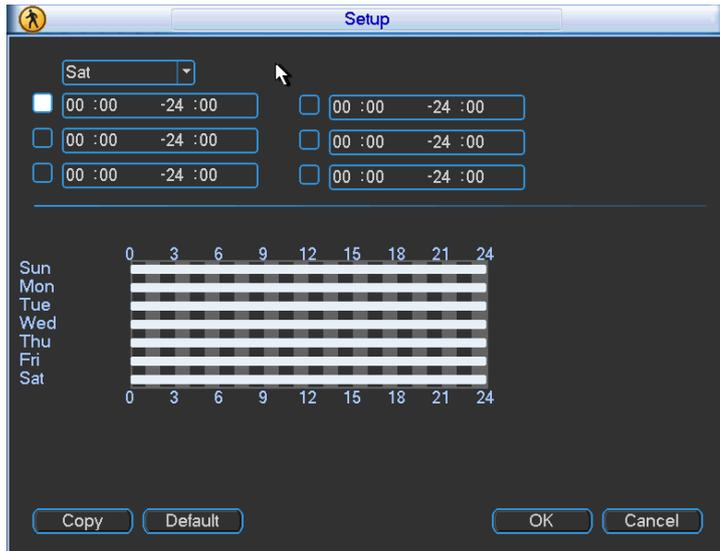

Figure 4-25
- Period: Click set button, you can see an interface is shown as in Figure 4-25. Here you can set motion detect period. System only enables motion detect operation in the specified periods. It is not for video loss or the camera masking. Please select Sunday to Saturday from the dropdown list. You can see there are six periods for you to set. Please note you need to check the box before the period to enable the period setup valid. In Figure 4-25, select work day or non-work day from the drop down list, and then click the Set button, you can set your own business day and non-business